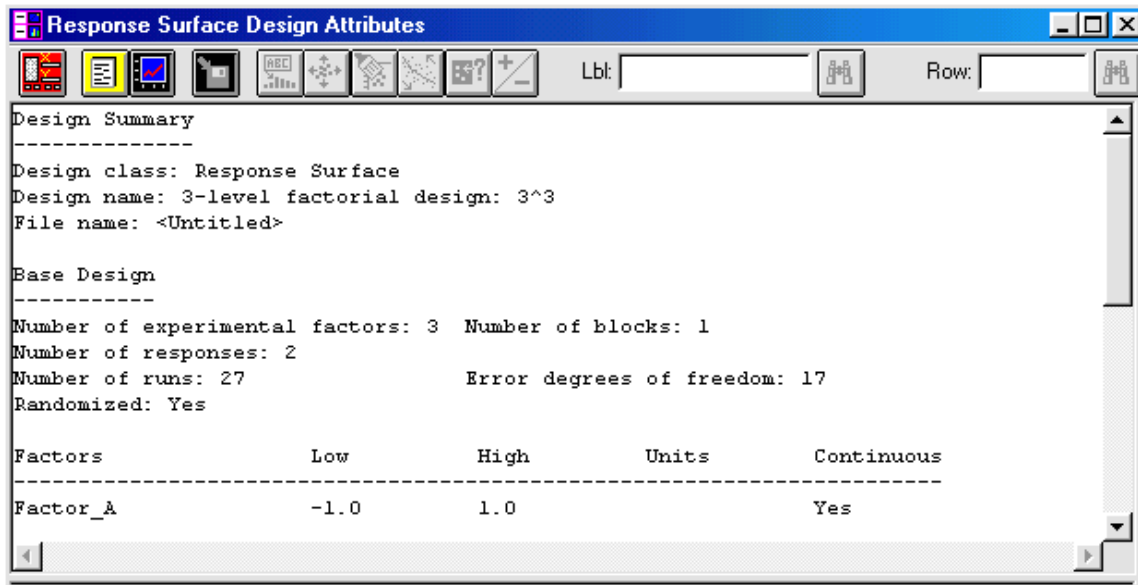

Figure 11-6. Design Summary
11. Click OK to place the experimental runs in the DataSheet and the Design Summary in the Design Attributes window shown in Figure 11-6.